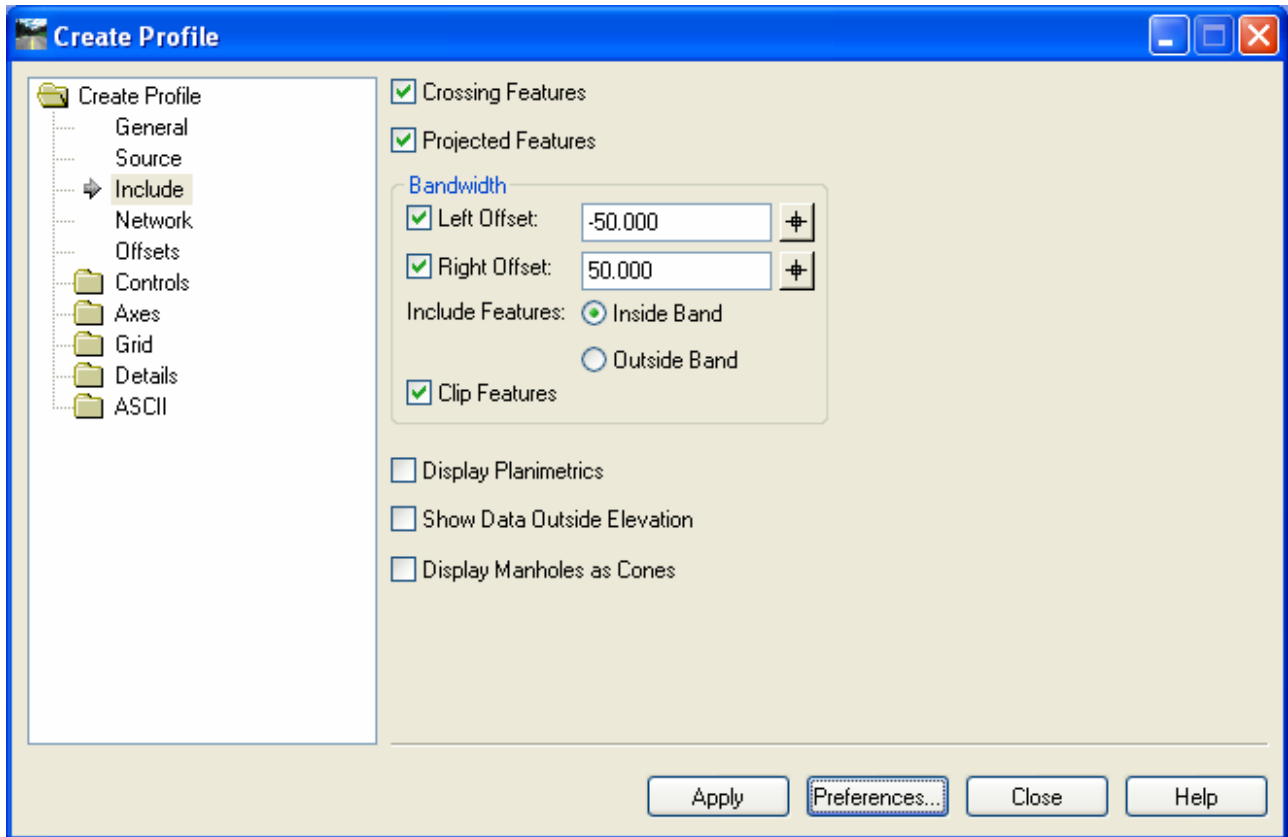

Figure 5-1 InRoads Create Profile Dialog Box
- A. Go to **Evaluation > Profile > Create Profile** (Figure 5-1 will appear).
- E. Select **Include**. Make sure that **Crossing Features** and **Projected Features** are checked. Set up the **Bandwidth** as shown below in Figure 5-1.